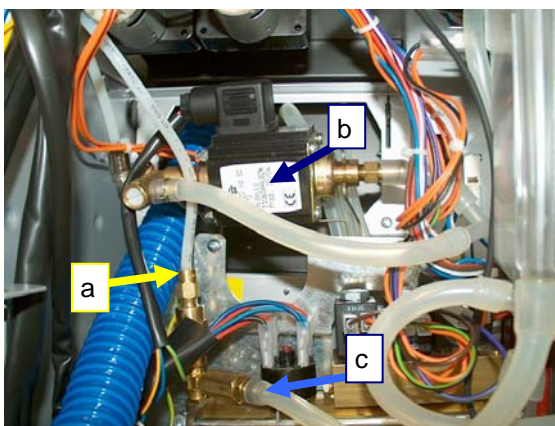

Fig. 7
4. Disconnect the high pressure hose (Fig. 7 a), remove the pump (Fig. 7 b) from the mounting clips, and disconnect the pressure feed back pipe (Fig. 7 c)